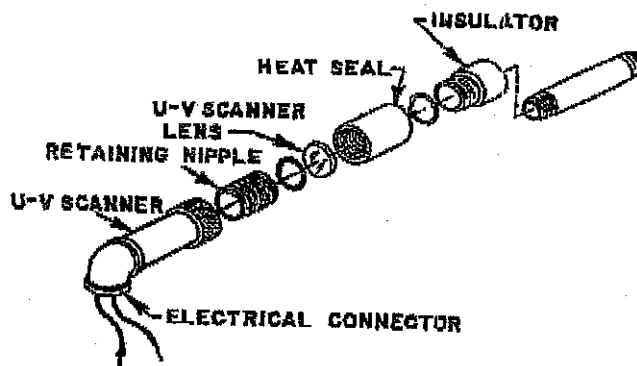

Figure 4-4. Ultraviolet Flame Scanner
1. Loosen the knurled mounting ring to disconnect the scanner from the heat seal. Loosen the heat seal from the insulator to expose the ultraviolet scanner head and the heat seal lens. (Refer to Figure 4-4).